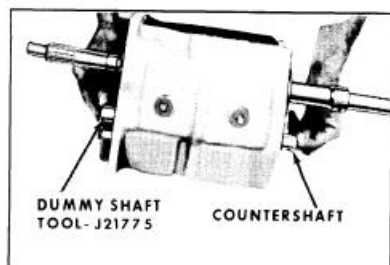

Figure 4-8—Removing Countershaft with J-21775
11. Using Tool J-21775 drive countershaft out rear of case. See Figure 4-8.